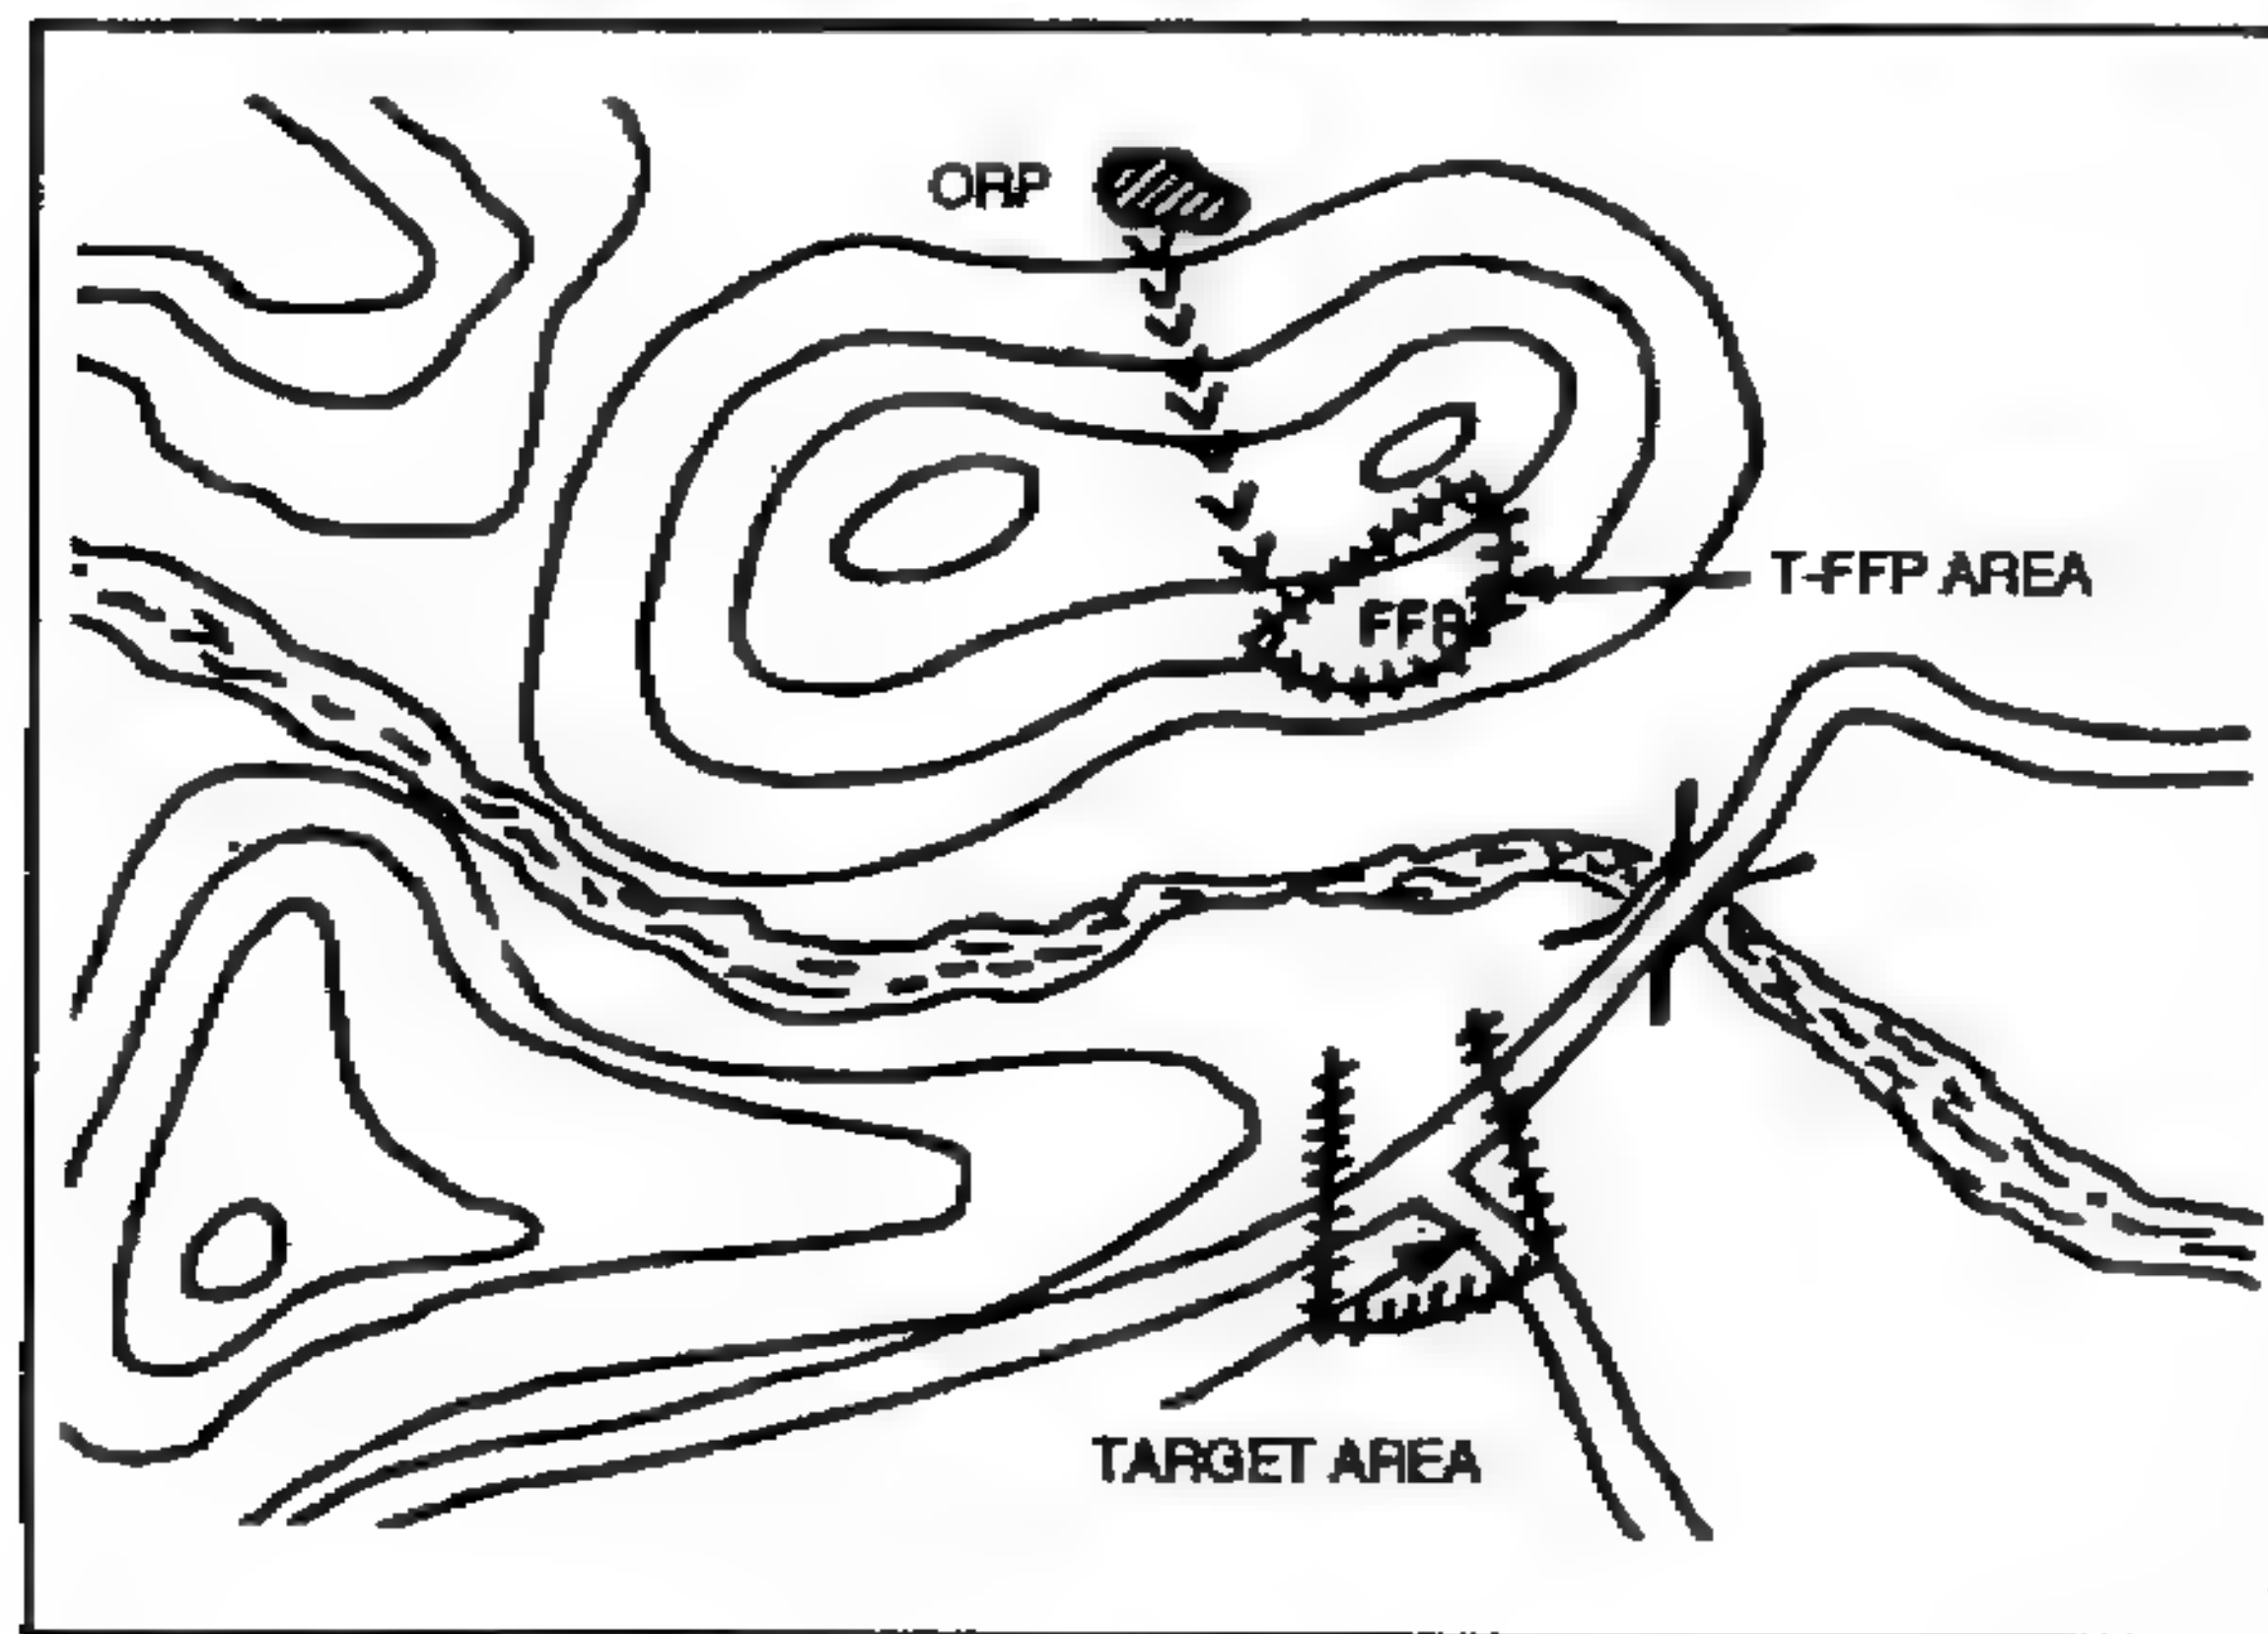

Figure 4-8. Tentative position areas.
a. From the ORP, the team moves forward to a location that allows the team to view the tentative position area (Figure 4-8, page 4-16). One member remains in this location to cover the other member who reconnoiters the area to locate a final position. Once a suitable location has been found, the covering team member moves to the position. While conducting the reconnaissance or moving to the position, the team—